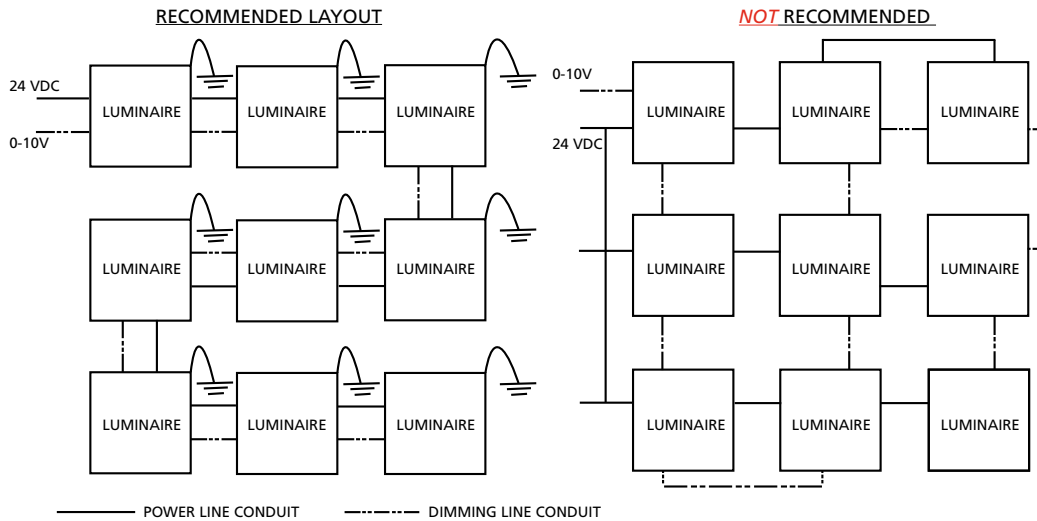

FIGURE 3: Wiring Schematic
- Run DC wiring, equal in size and temperature rating to the filter input wiring, between the filter output cables and the first luminaire within the shielded room. Follow recommended wiring layout described within Figure 3. All wiring must be within completely-enclosed, grounded conduit suitable for an MRI environment. Any gaps, regardless of size, must be closed or wrapped in copper foil tape. Special attention should be paid to the wiring entry point into the shielded space. Class 1 wiring methods are required.
- Run the dimming signal wiring, equal in specification to the filter input wiring, between the filter output cables and the first luminaire within the shielded room. Maintain polarity between input and output sides of the filter and follow wiring recommendation in Figure 3. All wiring must be within completely enclosed, grounded conduit suitable for an MRI environment. Any gaps, regardless of size, must be closed or wrapped in copper foil tape. Special attention should be paid to the wiring entry point into the shielded space. Cap gray and violet leads at luminaire(s) if dimming function is not implemented.
- Fill out the Installation Registration Form (attached) and fax to Kenall at (262) 891-9701.